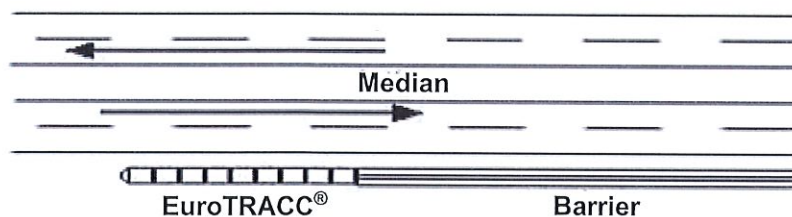

Figure 5 - Unidirectional Traffic Flow – One Side – Requires No Transition.
Assembly of a EuroTRACC® system and its backup connections or transitions depends on the traffic pattern and the backup structure at each location. Unidirectional traffic (one side or both) requires no transition (Figures 5 and 6) and only requires connection to a backup structure. The Backup Frame can be attached to any solid structure including a square cast-in-place concrete pillar, a vertical concrete wall, or the end of a New Jersey-style barrier. The Backup Frame provides a pattern for anchor studs that may require adaptation to the Backup structure. “Free-standing” assemblies need two (2) driven standard guardrail posts or two (2) foot-plate posts anchored to the system foundation and attached to the Backup Frame. Call Customer Service at +1-214-589-8140 or your local Trinity Highway International representative with questions (p. 3).